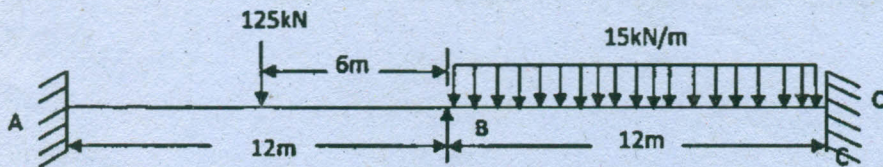

Fig. 4
14. (a) ABC is a continuous beam with constant EI throughout its length as shown in Fig.4. The end supports A and C are fixed and the beam is continuous over middle support B. Span BC is uniformly loaded with 15 kN/m length while a concentrated vertical downward load of 125 kN acts at the midspan of AB. Calculate the moments by slope deflection method.